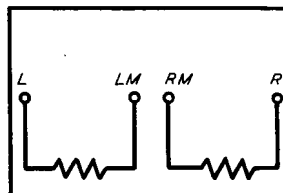

FIG. 4 - WINDING TERMINAL ARRANGEMENT AS VIEWED FROM THE REAR (TERMINAL SIDE) C TYPE RELAY
2.05 The contacts as viewed from the front of the relay are numbered as covered in 2.04. The winding terminal designations are as shown in Fig. 4.